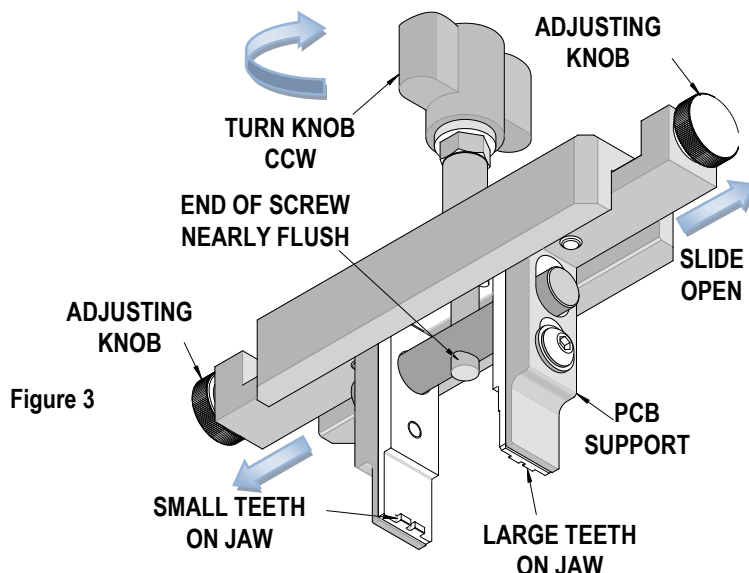

Figure 3
1. Slide the PCB Supports and Lifting Jaws by turning the adjusting knobs on the PCB supports fully open. See Figure 3. Turn the Lifting Screw Knob counter-clockwise (CCW) until the Lifting Jaws are slightly below the PCB Supports. At this point, the end of the Lifting Screw will be nearly flush with the bottom of the Lifting Bar.